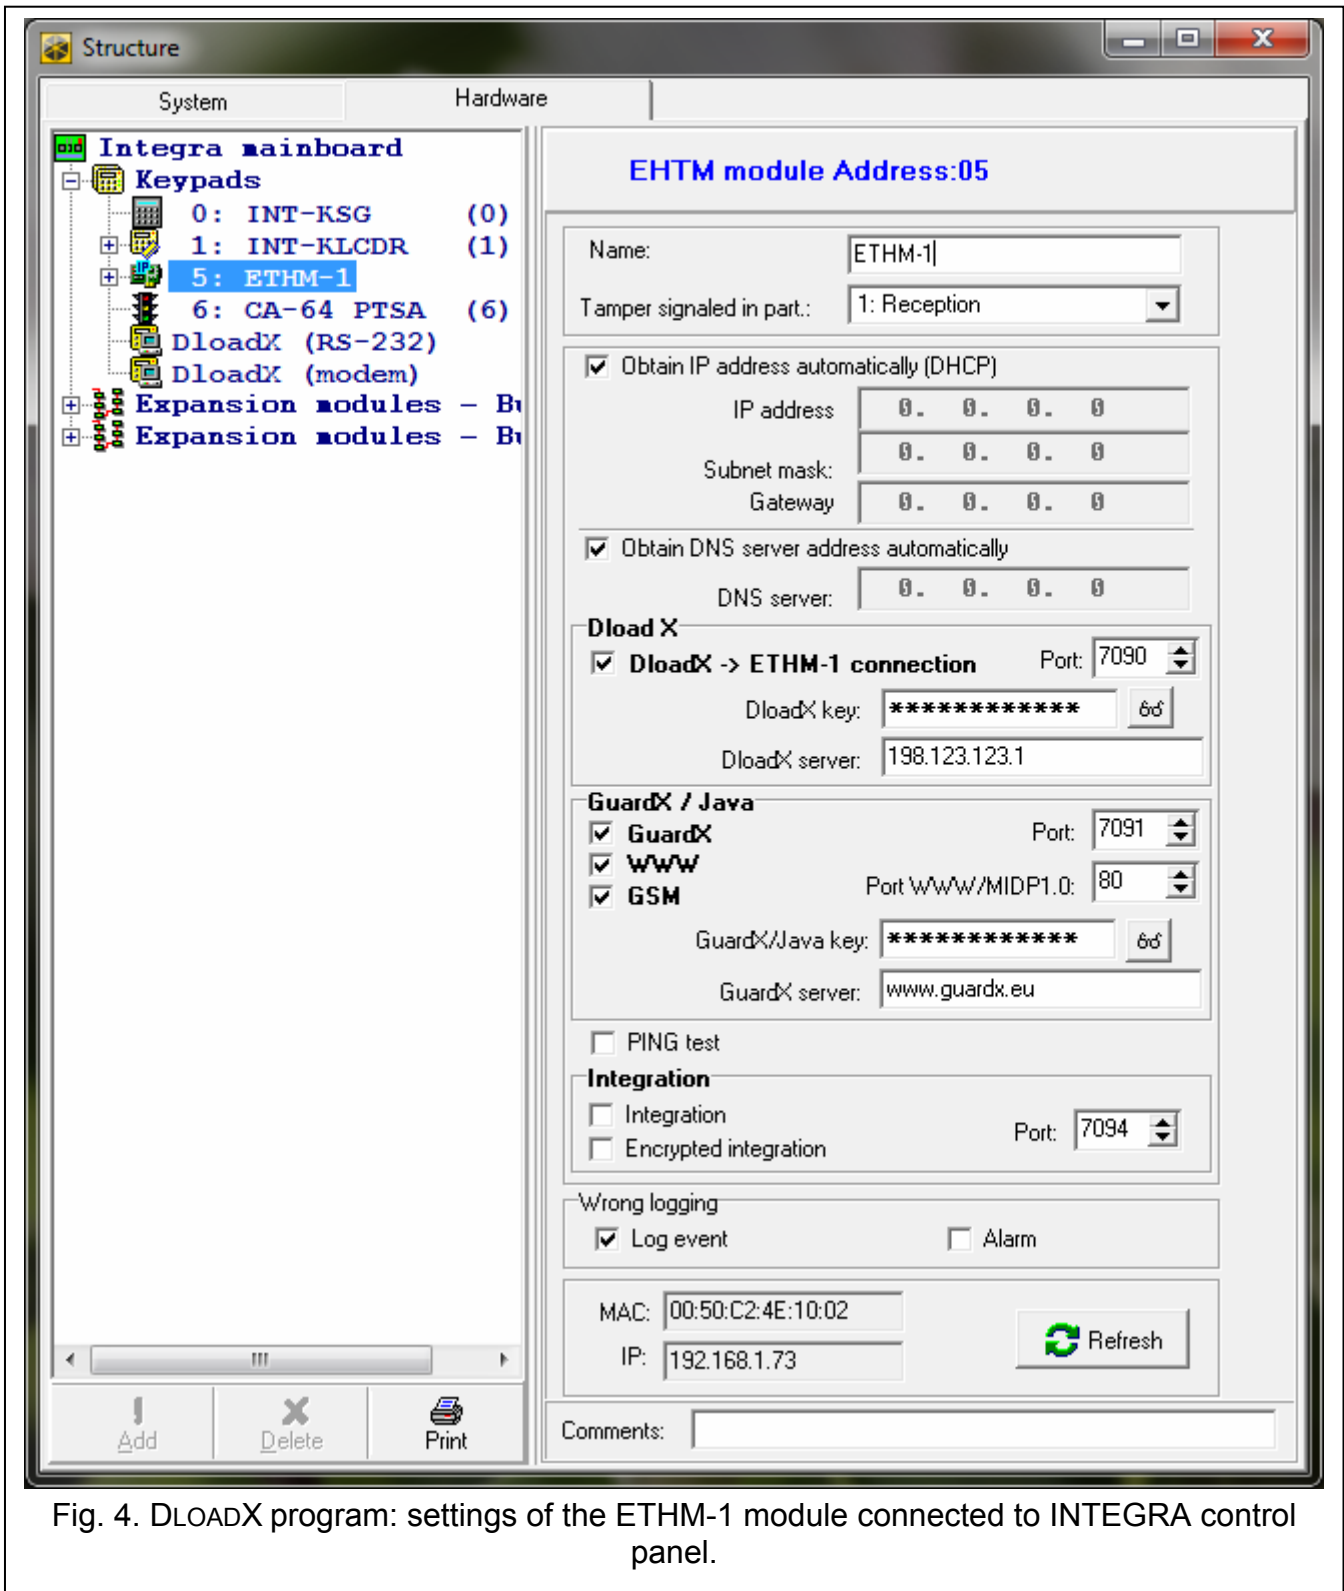

Fig. 4. DLOADX program: settings of the ETHM-1 module connected to INTEGRA control panel.
- DLOADX program: →"Structure" window →"Hardware" tab →"Keypads" item →[click on the module in the list of devices] (see Fig. 4).
If the module is connected to the INTEGRA / INTEGRA Plus control panel, the IP address can be read in the DLOADX program (it is shown below the module settings – see Fig. 4).